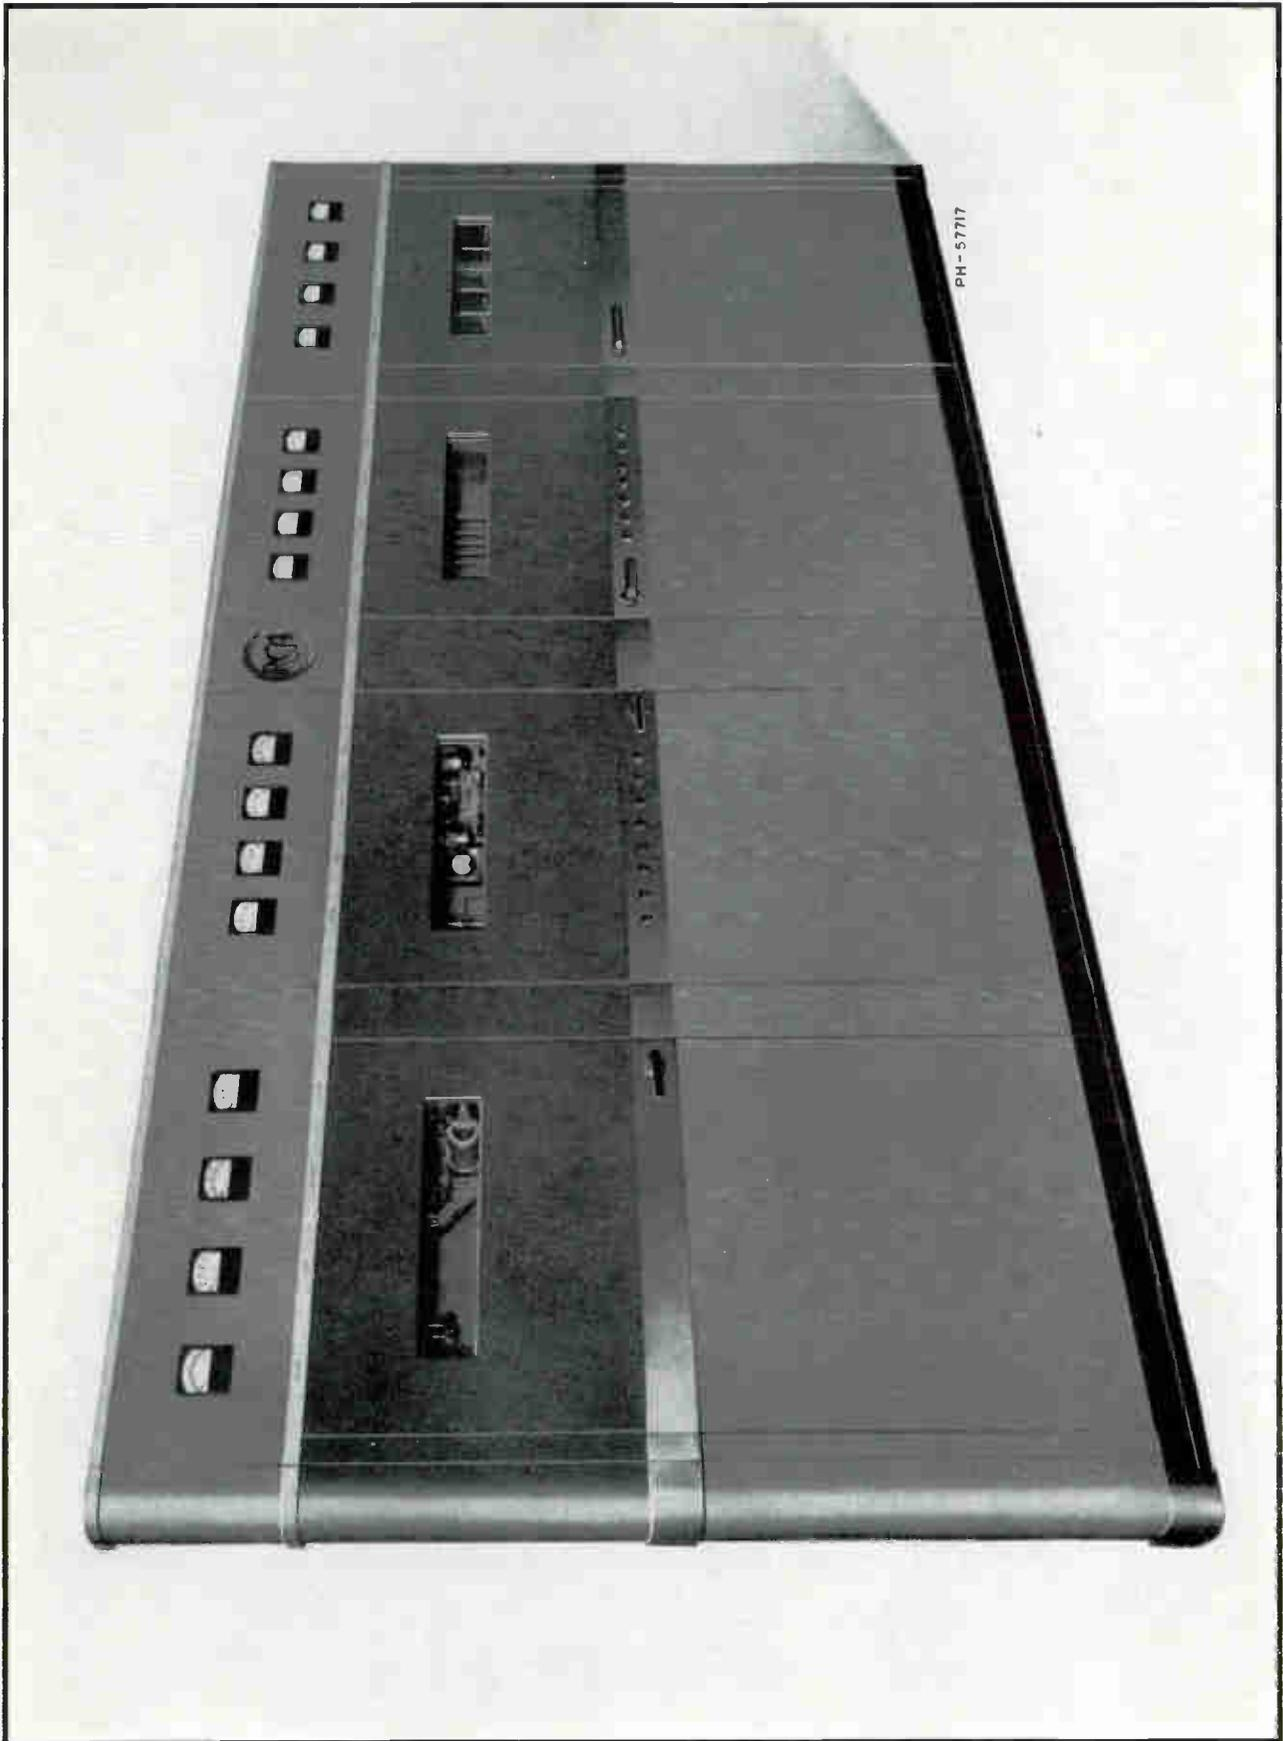

Figure 1—Type BTA-5F Broadcast Transmitter (Front View)
The equipment comprises seven major units or assemblies: (1) radio frequency unit; (2) low power rectifier chassis; (3) audio frequency and main rectifier unit; (4) power control unit; (5) transmitter base (2 sections); (6) transmitter unified front (2 sections); (7) auxiliary equipment, modulation transformer, and plate transformer. The assembled transmitter is shown in Figure 1. Full access to the equipment is provided through the four front doors. All tubes are replaceable from the front and are visible through the viewing ports.